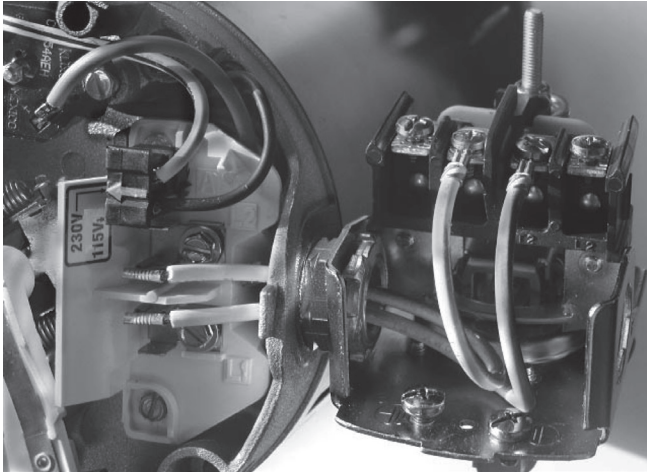

Figure 7: Voltage set to 230 volts, Plug Type
5. Attach the ground wire to one of the grounding connections, shown in Figure 7.
1. Connect the ground wire first as shown in Figure 7. The ground wire must be a solid copper wire at least as large as the power supply wires.
4. Connect the power supply wires to the pressure switch as shown in Figure 7.